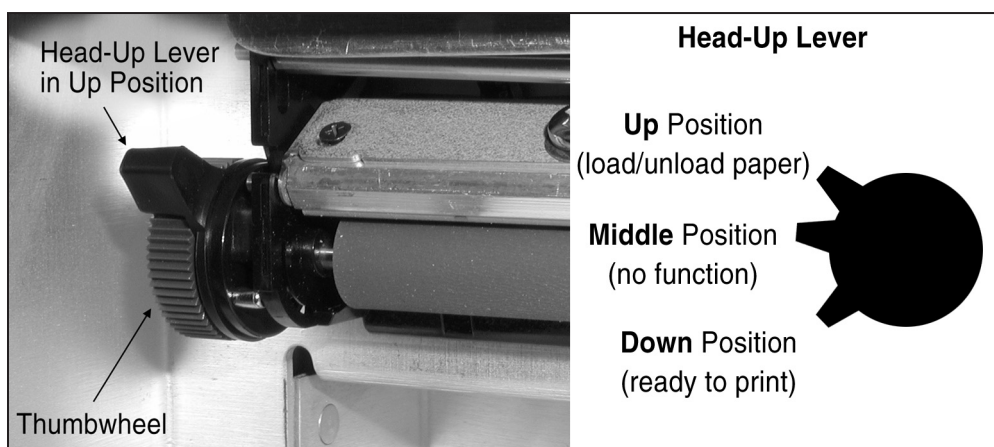

Figure 2.4.4B—Head-Up lever in up position.
2. Place the Head-Up lever into the **up** position. See Fig. 2.4.4B.